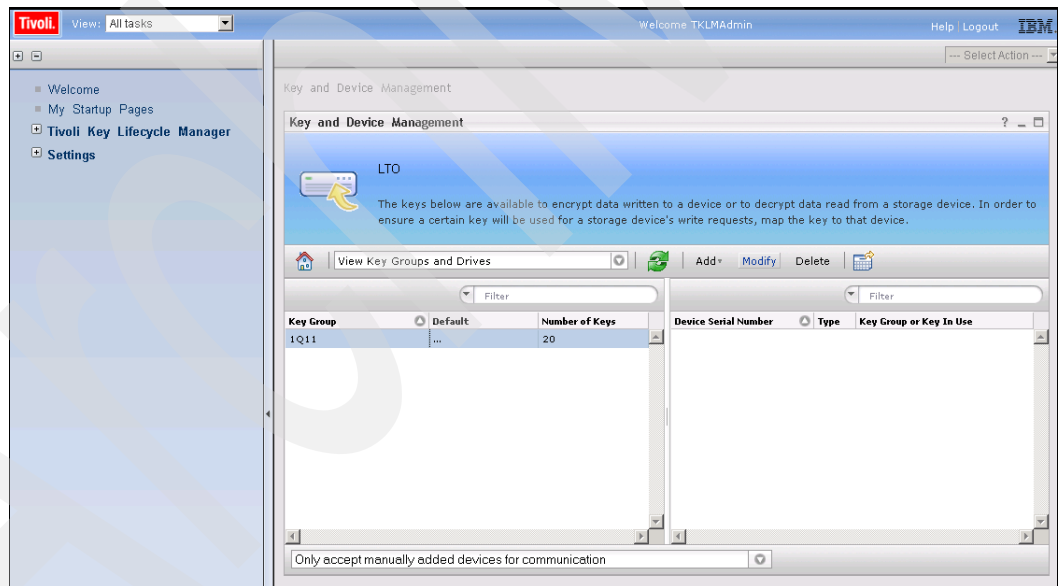

Figure 9-46 LTO key group highlighted
3. Highlight the LTO key group and click **Modify** (Figure 9-46).